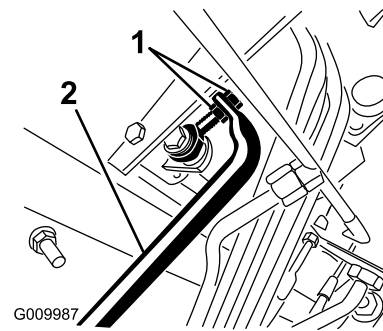

Figure 99
5. Adjust the jam nuts on the pump rod end to move the pump control tube forward to eliminate forward creep or rearward to eliminate rearward creep (Figure 99).